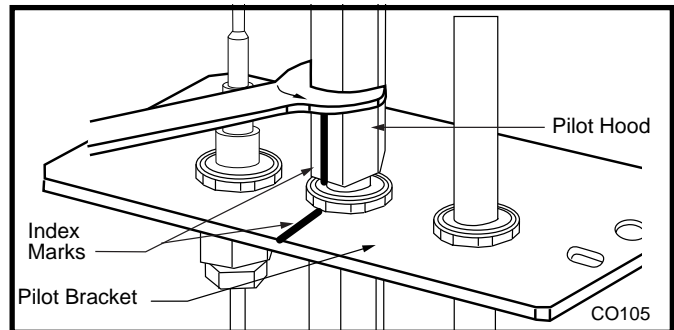

Fig. 61 Remove pilot hood. (Your pilot may have a different appearance.)
- Loosen pilot hood turning counterclockwise using a 7/16" wrench. (Fig. 61)